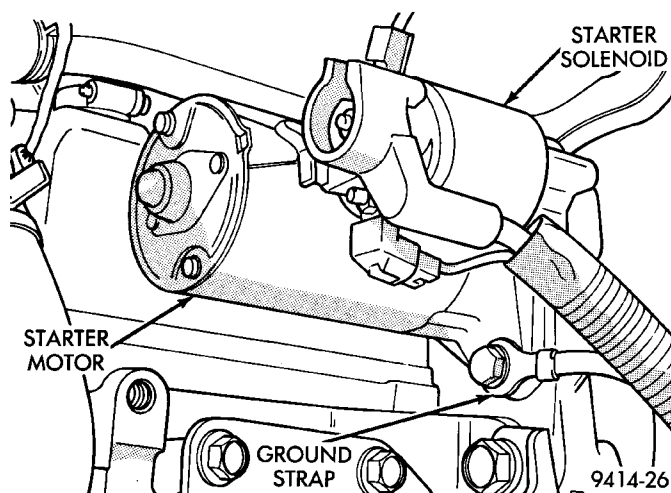

Fig. 63 Starter Motor and Ground Strap
(11) Check the electrical connection to the radiator fan.
(12) Inspect for corrosion on the electrical connections at the starter motor solenoid. Check the ground cable connection below the starter motor (Fig. 63).
(13) Inspect the air cleaner filter element. Replace as necessary. Check the air induction system for restrictions.